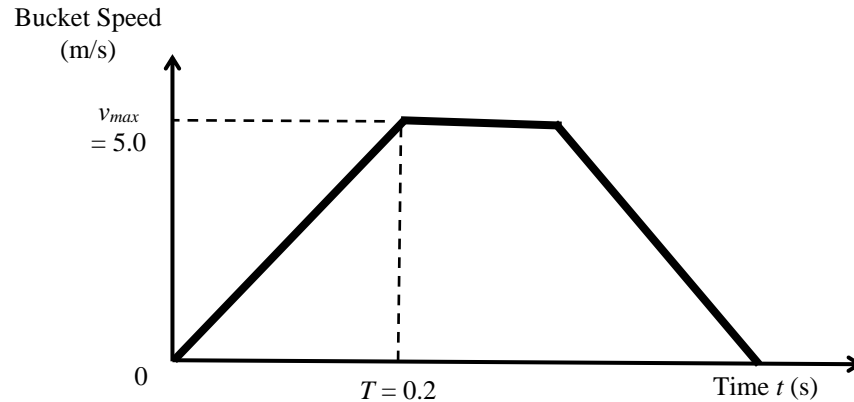

Figure Q3(b): Speed profile of the bucket.
- (c) The speed profile of the conveyor has a steadily accelerating start-up segment, a constant-speed segment, and a steadily decelerating segment for stopping the load, as shown in Figure Q3(b). Numerical values for the key parameters of the speed profile are also shown in the figure.
Three models of dc motor (models 1, 2, and 3) are available for this application. Their pull-out curves (for repeated operation) are shown in Figure Q3(c). The moments of inertia of the rotors of the motor models 1, 2, and 3 are: $J_{m1} = 6.0 \times 10^{-2}$ kg. m², $J_{m2} = 8.0 \times 10^{-2}$ kg. m², and $J_{m3} = 11.0 \times 10^{-2}$ kg. m², respectively. Also, the following parameter values are known for the system: $r_p = 0.40$ m, $p = 2$, $J_{gm} = 4.0 \times 10^{-2}$ kg.m², $J_{gp} = 7.0 \times 10^{-2}$ kg.m², $J_p = 15.0 \times 10^{-2}$ kg.m² (constant), and $m = 15.0$ kg.